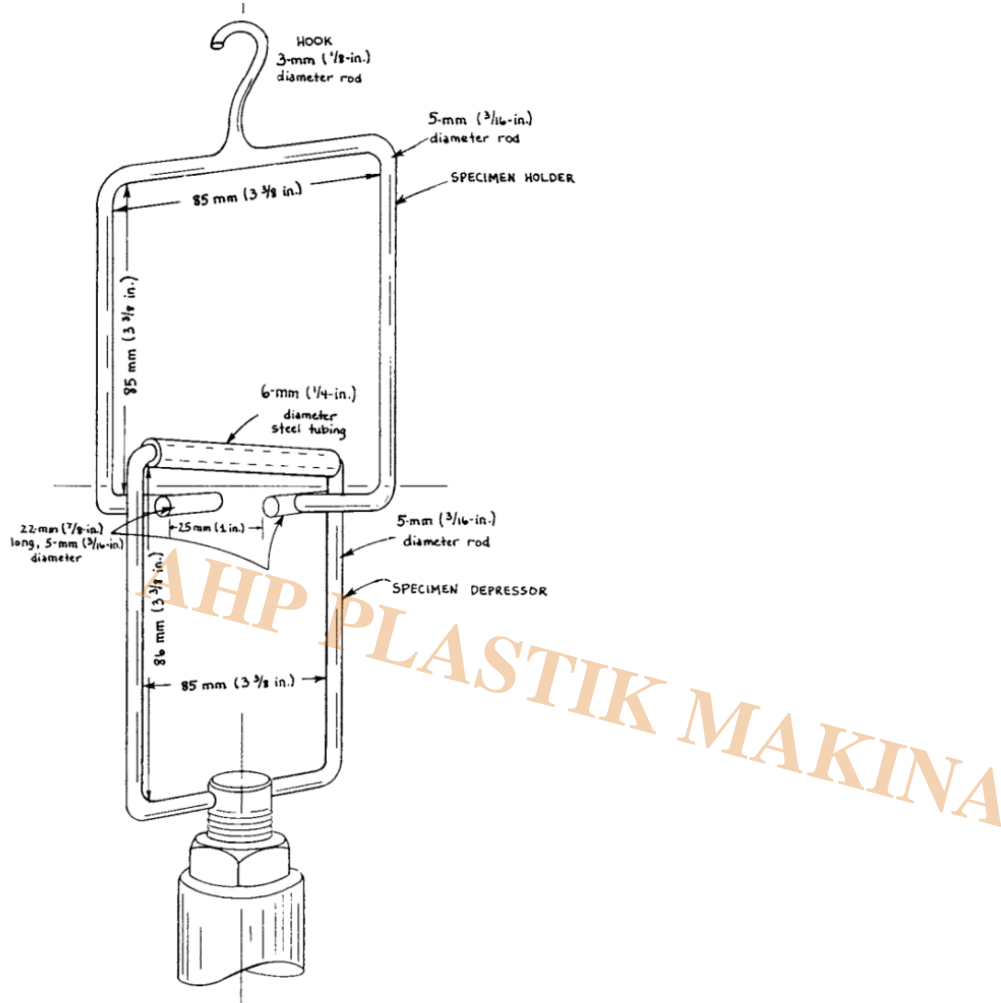

FIG. 4 Apparatus for **Stiffness** of Fabric Testing
38.4.3 Specimen Holder – An 85-mm (3 3/8-in.) square frame made of 5-mm (1 1/4-in.) diameter steel rod. In the middle of one side is a hook made of 3-mm (1/8-in.) rod diameter for connecting the holder to the loading cell. In the middle of the opposite side, there is a 22-mm (7/8-in.) long, 5-mm (1/4-in.) diameter rod fastened at midpoint and at right angles to the side of the frame. These two rods, 25-mm (1-in.) apart, form a rack on which the test specimens lay across the 25-mm (1-in.) opening (see Fig. 4).
38.4.4 Specimen Depressor, 85-mm (3 $\frac{3}{4}$ -in.) square frame, made of 5-mm (1 $\frac{1}{4}$ -in.) diameter steel rod, rigidly fastened with a threaded connector to the lower crosshead. The side opposite the crosshead connection is covered with a 6-mm (1 $\frac{1}{4}$ -in.) diameter piece of steel tubing. This forms a bar, which presses against specimens to bend them during the test (see Fig. 4).